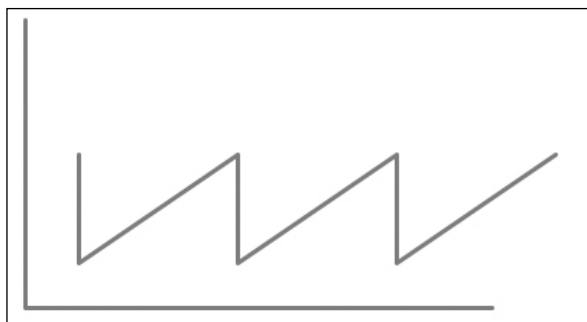

Figure 1. Current ramp to laser
- A current ramp is fed to the laser. This is the fine wavelength adjustment (figure 1).